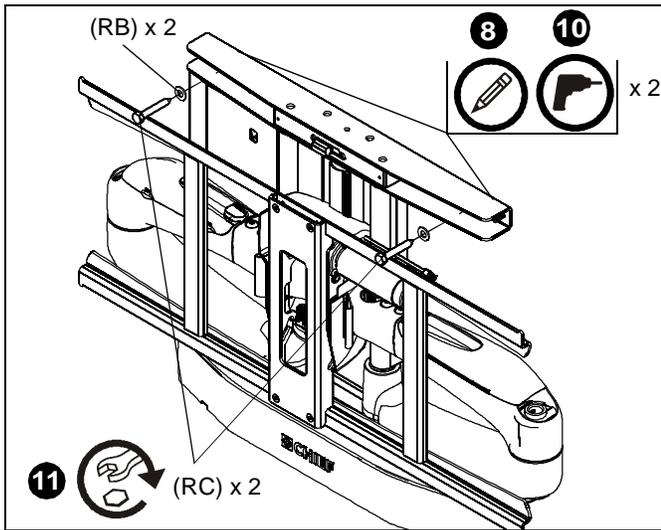

Figure 7
8. Mark the pilot holes through PXR upper bracket. (See Figure 7)
11. Return PXR to mounting bracket and fasten to wall using two 5/16 x 2-1/2" lag screws (RC) and two 5/16" flat washers (RB). (See Figure 7)